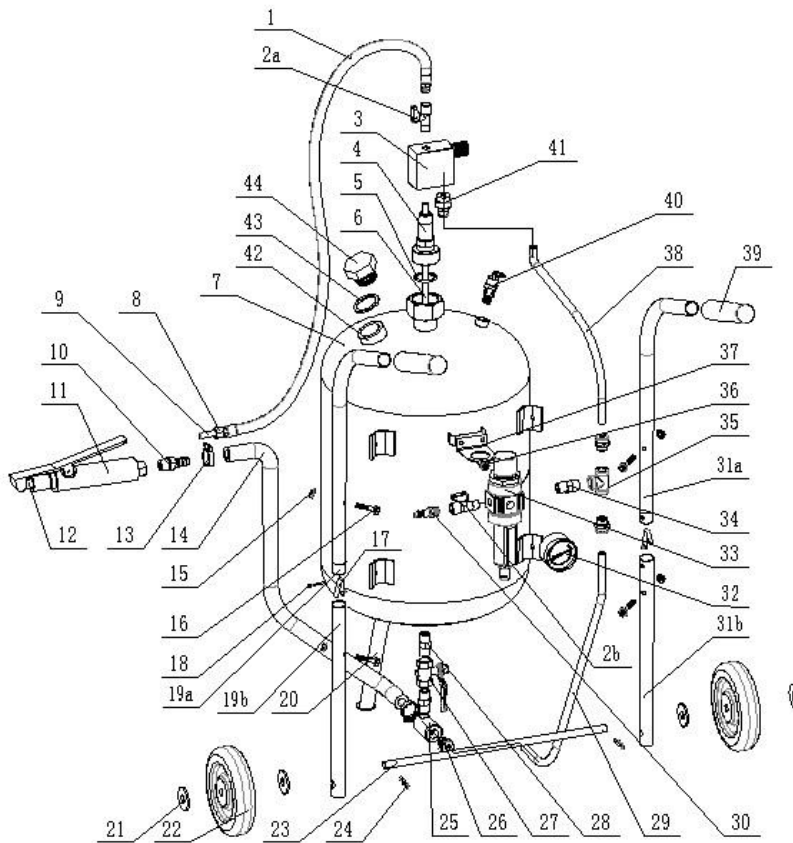

Figure 1
1. Assemble this product according to Figure 1.